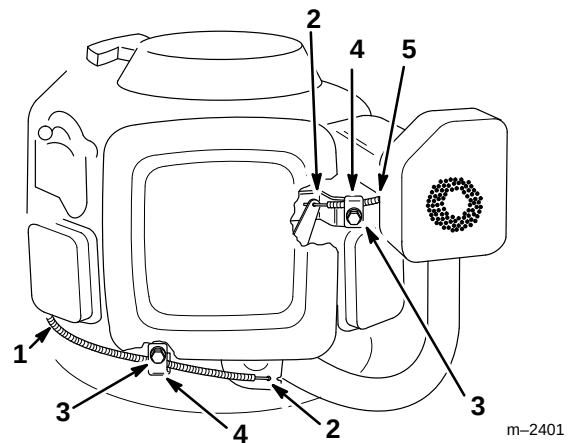

Figure 5
2. Place throttle control in FAST position (Fig. 5).
3. Hook wire Z-bend into throttle arm (Fig. 5).
4. Loosen cable clamp screw and insert cable, but do not tighten (Fig. 5).
5. Pull slightly on cable to remove any slack and tighten cable clamp screw (Fig. 5).
3. Hook wire Z-bend into hole of choke lever (Fig. 5).
5. Pull on choke cable until choke lever is in the full open position. Tighten cable clamp screw (Fig. 5).